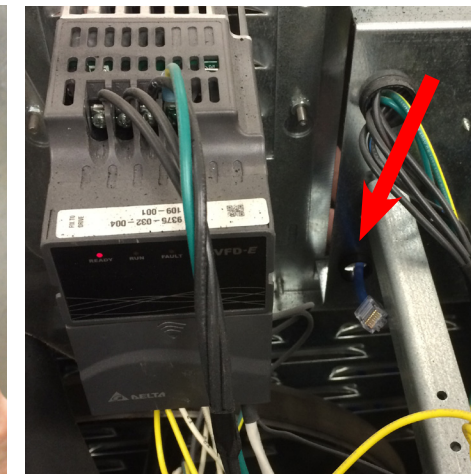

Figure 3
- Inside the cover area route the cable to the right and through the hole with the bushing (Figure 3)